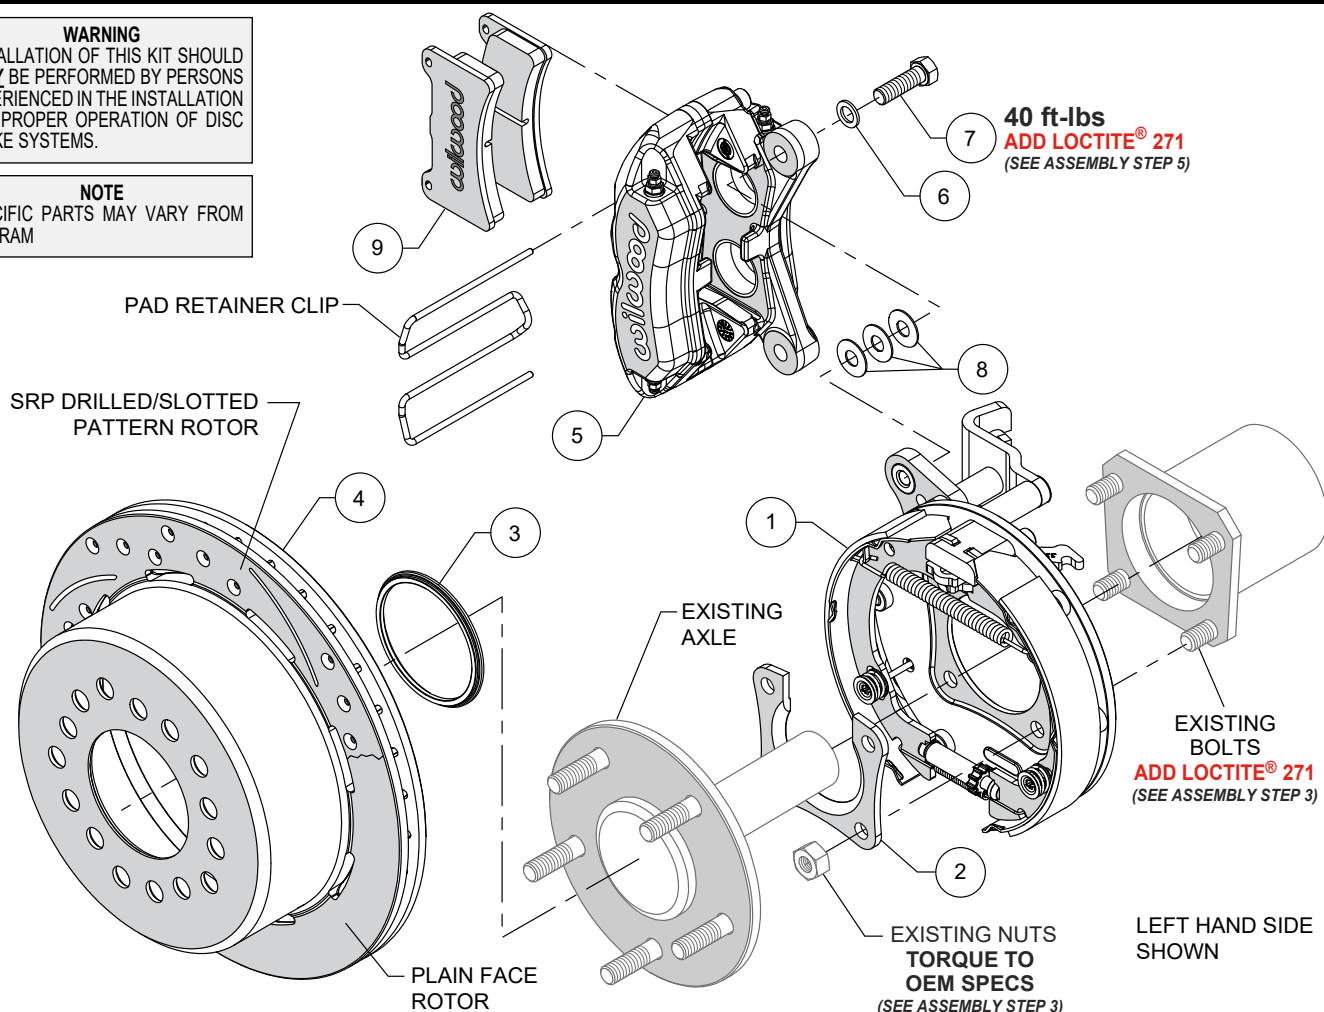
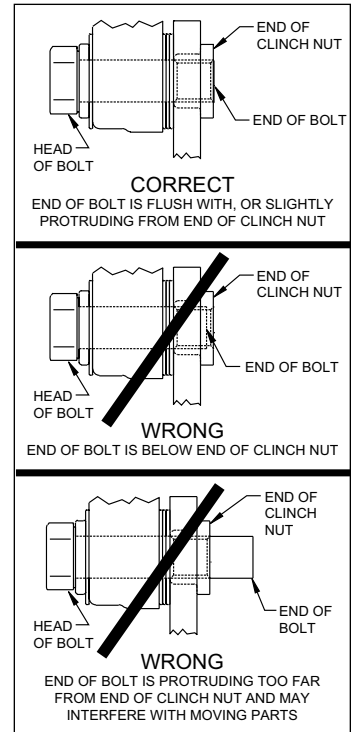

Figure 1. Typical Installation Configuration
Figure 5. Clinch Nut Engagement Diagram
NOTE: Numbers in parenthesis refer to the parts list and Figure 1 on the preceding pages.
CAUTION: All mounting bolts must fully engage clinch nuts. Be sure to check that all bolts are either flush or protruding through flanged side of clinch nut after shimming, Figure 5.
STEP 1 Orient the bracket assembly (1) as shown in Figure 1 and Photo 1 and slide it onto the axle.
STEP 2 Insert the axle with the bracket assembly (1) into the axle housing. Ensure that the bracket assembly backing plate fits flush against the axle housing flange.
STEP 3 Install the bearing retainer (2) with the opening pointing upward and the lip facing inward (toward the bearing), as shown in Figures 1 and 4, and Photo 2. Secure the bearing retainer and bracket assembly to the axle housing flange using the Original Equipment Manufacturer (OEM) bolts and nuts, Figure 1. Apply red *Loctite*® 271 to the OEM bolt threads and torque to OEM specifications.
STEP 4 Slide the rotor registration adapter (3) onto the axle register on the axle flange with the smaller O.D. facing toward the rotor/hat (4), Photo 3. Align the correct hole pattern in the rotor/hat with the stud pattern on the axle flange and slide into place, Figure 1 and Photo 4. **NOTE:** *The rotor/hat must fit flush against the axle flange or excessive rotor run out may result.* Install three lug nuts (finger tight) to keep the rotor/hat assembly in place while continuing with the installation, Photo 4. **NOTE:** *Some OEM and after market axles come with stud sizes larger than 1/2" diameter. Verify stud size and have a qualified machine shop drill the bolt circle of the hat/rotor to the correct stud size, if necessary.*
STEP 5 **NOTE:** *Please reference the caution statement at the beginning of the assembly instructions.* Mount the caliper (5) onto the caliper mounting bracket (1) using bolts (7) and washers (6), as shown in Figure 1. Initially place three .035" thick shims (8) on each bolt between the caliper and the bracket, Photo 5. **NOTE:** *For forward mounted calipers only, the cable bracket must be temporarily removed to allow access to the upper caliper mount bolt.* Remove the two flathead bolts holding the cable bracket to the parking brake backing plate, Photo 6. **DO NOT mix the bolts or spacers.** They must be reinstalled in the same locations as they were removed. Temporarily tighten the mounting bolts and view the rotor (4) through the top opening of the caliper. The rotor should be centered in the caliper, Photo 7. If not, adjust by adding or subtracting shims between the bracket and the caliper. Always use the same amount of shims on each of the two mounting bolts. **NOTE:** *The end of each bolt must be flush with or slightly protruding from the head of the clinch nut, as shown in Figure 5.* If necessary place spare shims between washer (6) and caliper mounting ear to achieve the proper clinch nut engagement. Once the caliper alignment and clinch nut engagement are correct, remove the bolts (7) one at a time, apply red *Loctite*® 271 to bolt threads, and torque to value shown in Figure 1.
STEP 6 Install the disc brake pads (9) into the caliper, with the friction material facing the rotor (4). Secure in place using pad retainer clip, Figure 1 and Photo 8.
•**NOTE:** *Clevis and cable kits which attach to the parking brake assembly are not included in the Wilwood parking brake kit. Wilwood offers a generic style parking brake cable kit, P/N 330-9371 for this application which can be ordered separately from your local Wilwood dealer or by calling Wilwood customer service at (805) 388-1188.*